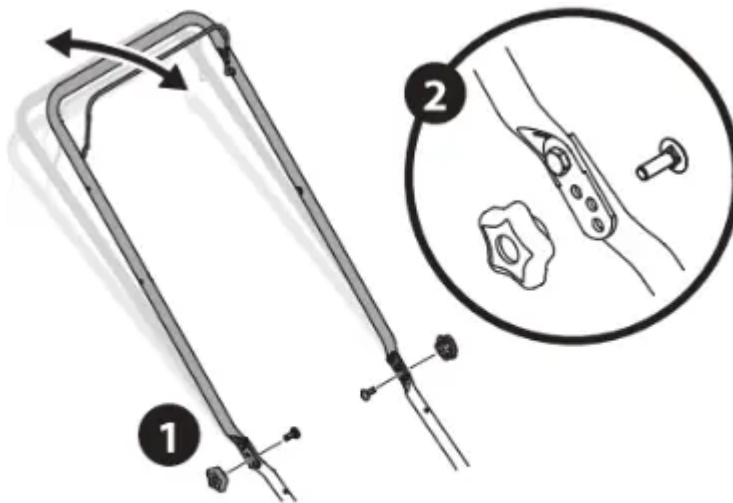

Figure 25
1. Remove wing nuts and carriage bolts from handle (Figure 25).
2. Position the handle in one of the three positions that is most comfortable, See Figure 25 inset.